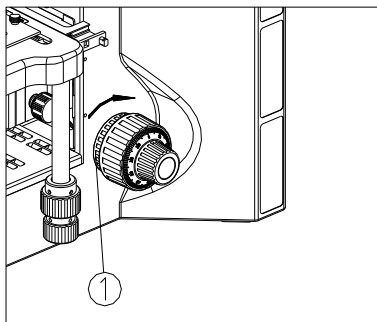

Fig. 14
If the handle is very heavy when focusing or the specimen leaves the focus plane after focusing, or the stage declines itself, please rotate the tension adjustment knob① according to the arrowhead pointed direction. (See Fig. 14)